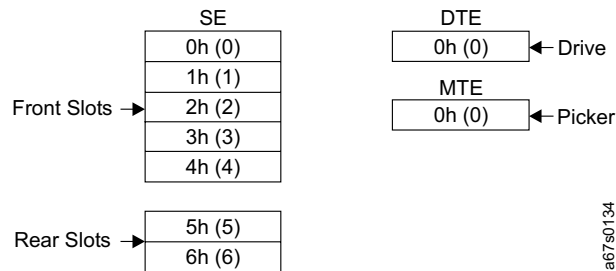

Figure 47. SCSI element addresses for the 3581 Tape Autoloader. The unit uses the Windows 2000 operating system and does not contain a bar code reader.
Figure 47 shows the SCSI addresses for the elements in an autoloader that uses the Windows 2000 operating system and does not contain a bar code reader. The addresses are given in both hexadecimal and decimal (in parentheses) format. In SCSI terms, the storage slot is known as the storage element (SE), the drive is known as the data transfer element (DTE), and the picker is known as the Medium Transport Element (MTE).